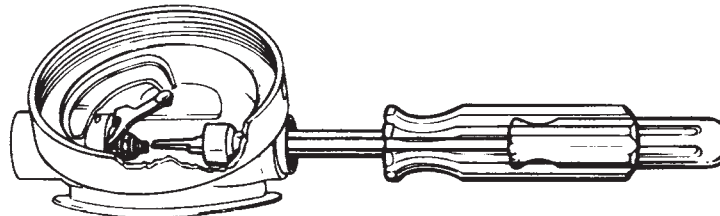

Figure 6
- ii) Place the screwdriver into the slot in the end of the poppet (item 9).
- iii) Slip the nutdriver onto the locknut (item 17).
- c) While holding the screwdriver stationary. Turn the nutdriver in small increments counterclockwise until you can no longer blow past the poppet. *Figure 6*.